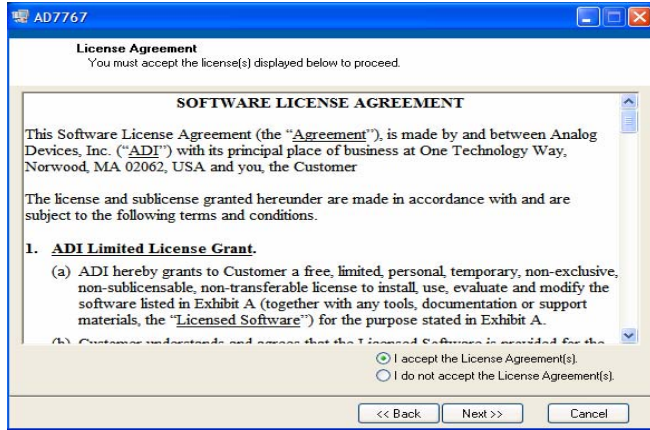

Figure 4. AD7767/-1/-2 Evaluation software install 3.
3) Accept the license agreement by selecting the correct option and clicking “Next” as shown in Figure 4.
5) On completion of the installation, the window as shown in figure 4 is displayed.